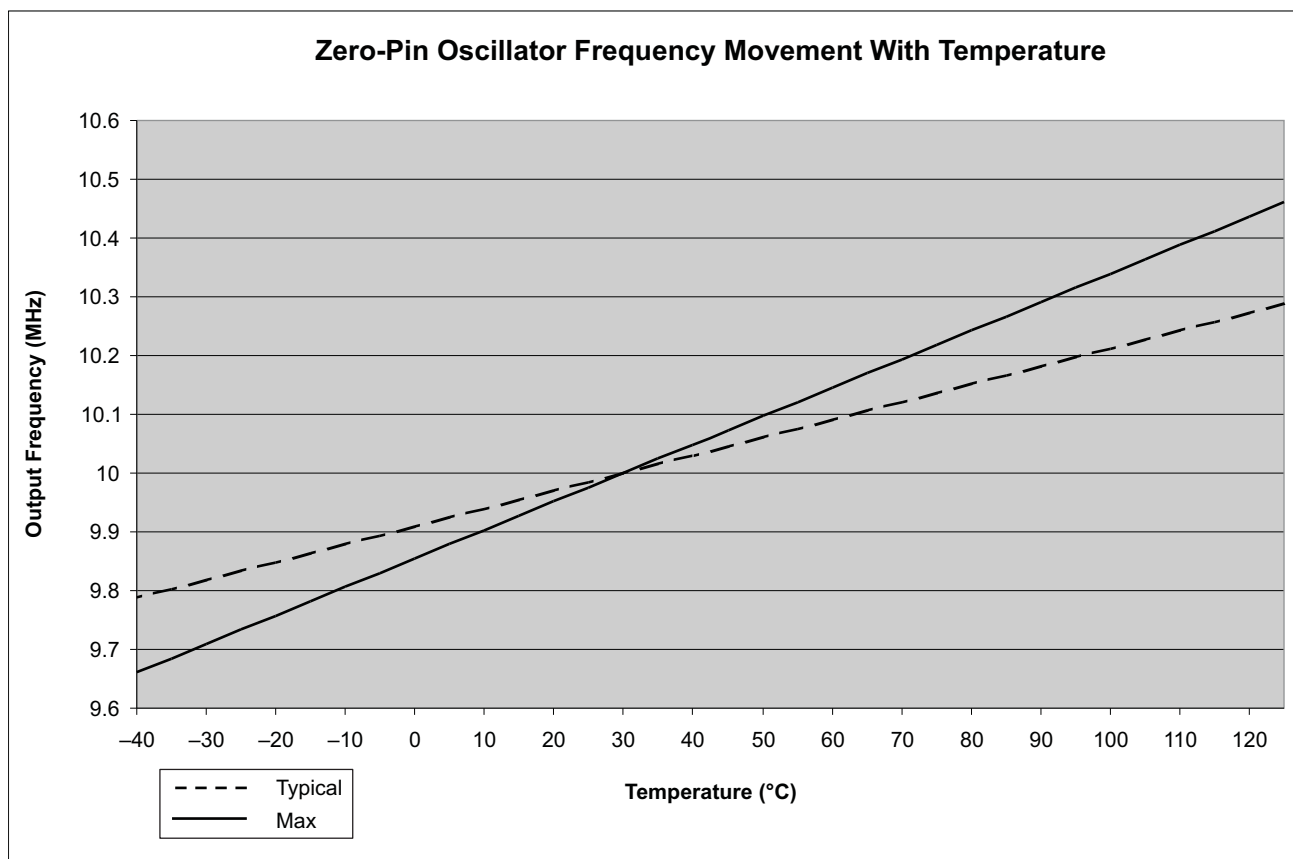

Figure 5-9. Zero-Pin Oscillator Frequency Movement With Temperature
- (1) In order to achieve better oscillator accuracy (10 MHz ± 1% or better) than shown, see the *Oscillator Compensation Guide Application Report (SPRAB84)*. Refer to Figure 5-9 for TYP and MAX values.
- (2) Frequency range ensured only when VREG is enabled, VREGENZ = V_{SS}.
- (3) Output frequency of the internal oscillators follows the direction of both the temperature gradient and voltage (V_{DD}) gradient. For example: